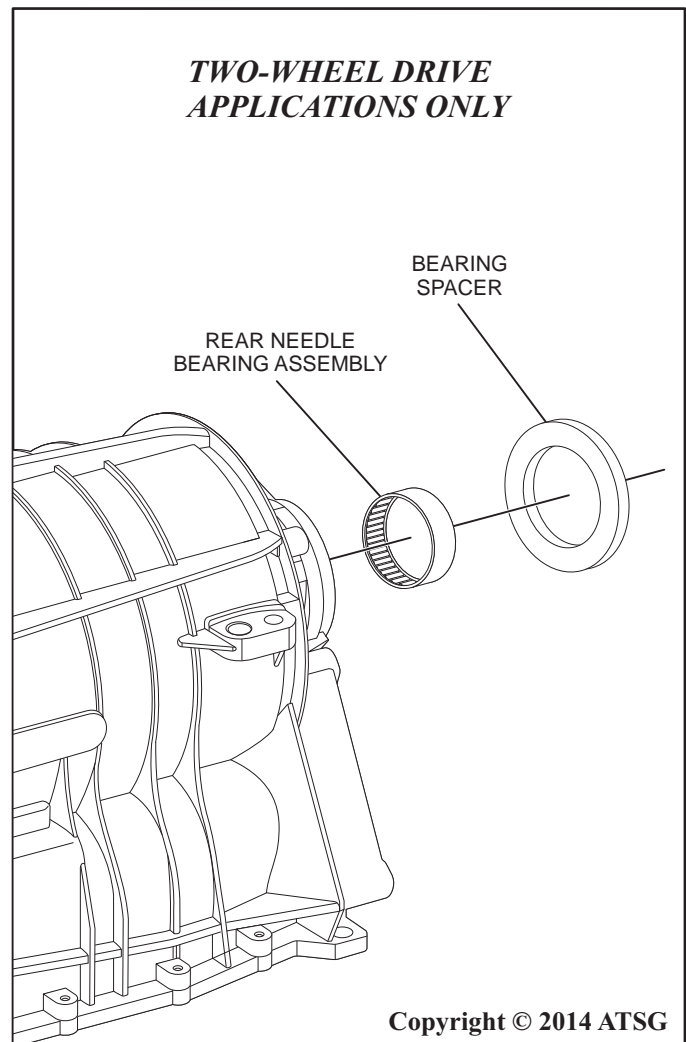

Figure 58
Using ST 308-001 pilot bearing remover or similar pilot bearing removal tool, remove the bearing spacer from the transmission as shown in Figure 58.
41. Using ST 307-562 needle bearing remover and ST 205-256 front wheel hub oil seal installer or other suitable bearing removal tool, remove the needle bearing from the transmission as shown in Figure 58.